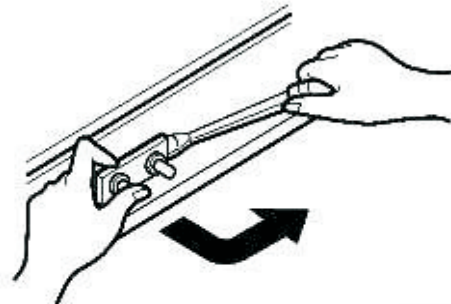

Figure 9
1. To remove the door switch, pull out it with a '—' type driver as shown in (figure 9).